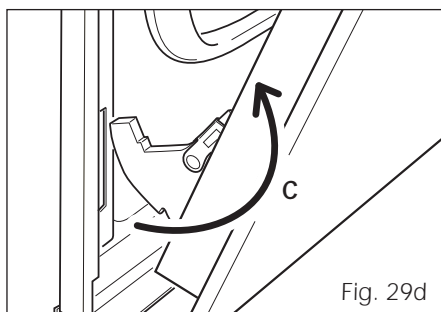

Fig. 29d
- Withdraw the hinge hooks from their location following arrow **C** (fig. 29d).